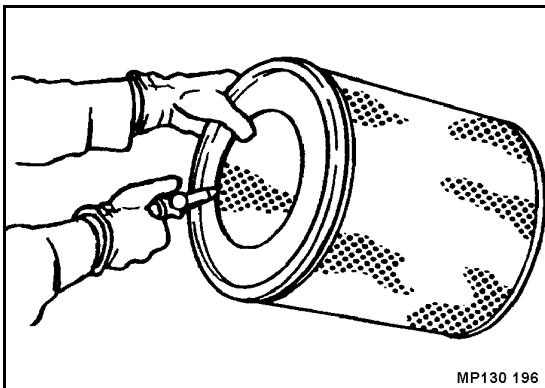

Fig. 185
- Blow the air filter (Fig. 185) out with compressed air (max. 5 bar(70 psi)) from inside to outside by moving the tube up and down inside the element, until it is free of dust.